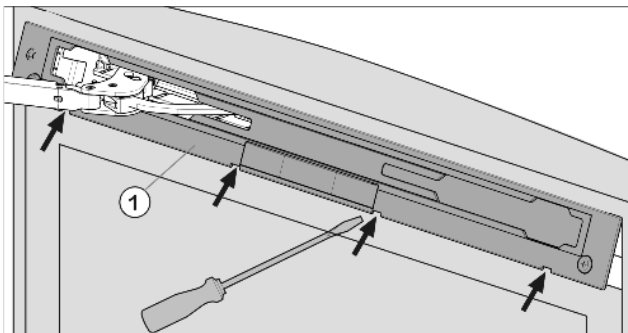

Fig. 38
- ▶ Release panel *Fig. 38 (1)* using slotted screwdriver and remove.